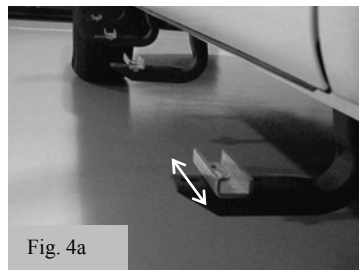
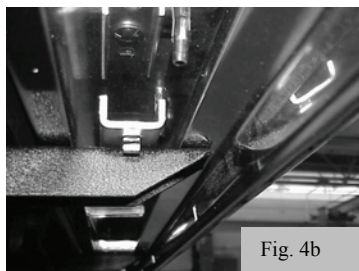

Fig. 4a
Fig. 4b
- (a) Lift and rotate the Pinch Clips 90 degrees so that they are perpendicular to the Brackets. (Figure 4a)
- (1) Left (Driver Side) Board is marked with an **Orange** sticker.
- (c) Carefully lower the board so that the Pinch Clips rest in the channel in the bottom of the Stealth Board. (Fig 4b)